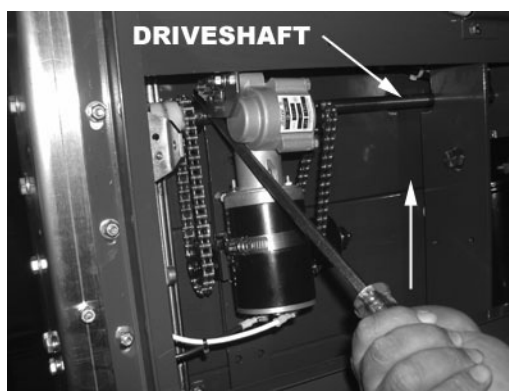

FIGURE 6: RESTORING TENSION TO MOTOR CHAINS
6. Refer to **Figure 6**. Move motor to restore chain tension by inserting a small pry bar between motor and driveshaft.